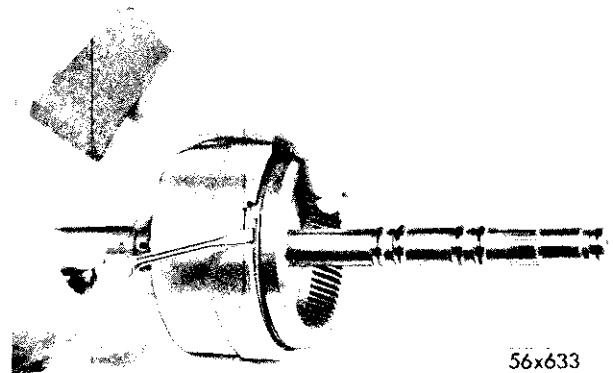
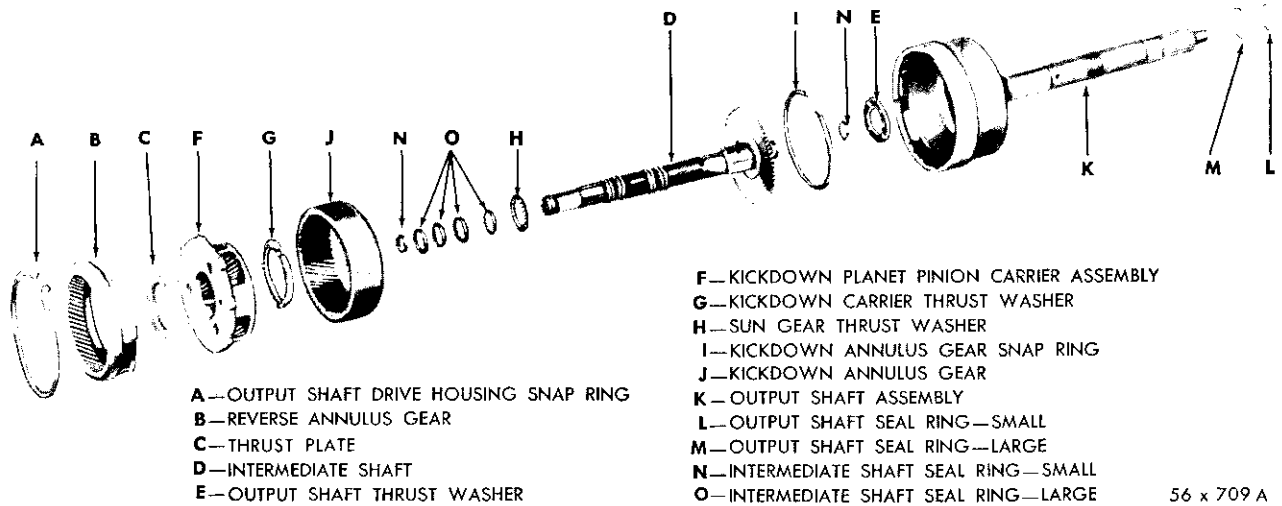

Fig. 61—Removal and Installation of Output Shaft Drive Housing Snap Ring
Fig. 62—Unit No. 1 (Disassembled View)
(1) Using a screwdriver, remove the output shaft drive housing snap ring (Fig. 61). Refer to Figure 62 and complete disassembly of unit as follows:
(2) Remove the reverse annulus gear (B) from the output shaft assembly (K).
(3) Remove the thrust plate (C) from the kickdown planet pinion carrier (F).
(4) Remove the intermediate shaft (D) and kickdown planet pinion carrier assembly (F) from output shaft assembly (K).
(5) Remove the output shaft thrust washer (E) located inside housing.
(6) Remove the kickdown planet pinion carrier assembly (F) from intermediate shaft assembly (D). **The kickdown planet pinion carrier assembly used in**